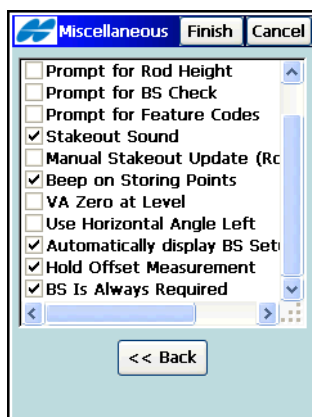

Figure 3-68. Miscellaneous
- **Next** – opens the *Miscellaneous* screen (Figure 3-68 on page 3-70).
The *Miscellaneous* screen is used to customize the user interface (Figure 3-68 on page 3-70):